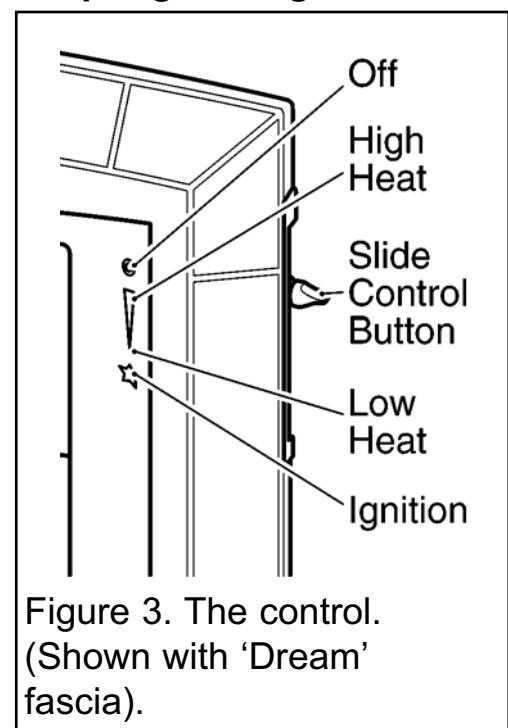

Figure 3. The control.
The slide control is shown in figure 3.
3. If low heat is required, release the button. The button will automatically spring up to the low heat position shown in figure 3 (See note i below). If for any reason the slider control does not spring up, raise the slider to the off (O) position (Topmost position) and contact your installer.
4. For a higher heat level slide the button upwards. The burner flames and heat output will gradually increase until the button reaches the high heat position shown in figure 3. When the button reaches the high heat position you will feel a check to its movement. **Do not slide the button above the high heat position unless you want to turn the fire off** (See note i below).